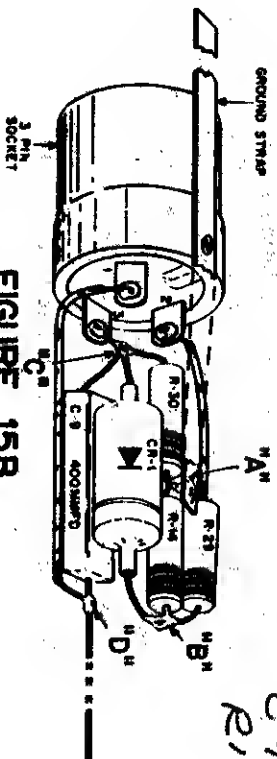

FIGURE 15B
- (✓) Position the assembled parts on C-9, a 400 MMFD mica capacitor, as shown in Figure 15B. Solder one lead of C-9 to point "C". Clip the excess capacitor lead. Clip the lead from the other end of the capacitor, leaving an $\frac{1}{8}$ inch lead.
- (✓) Mount the metal ground strap to the 3-pin socket with the small screw, as shown in Figure 15B.
- (✓) Position the assembled parts, as shown in Figure 15B. The short lead (point "A") between R-14 and R-30 must be directly under the small hole in the end of the metal strap.